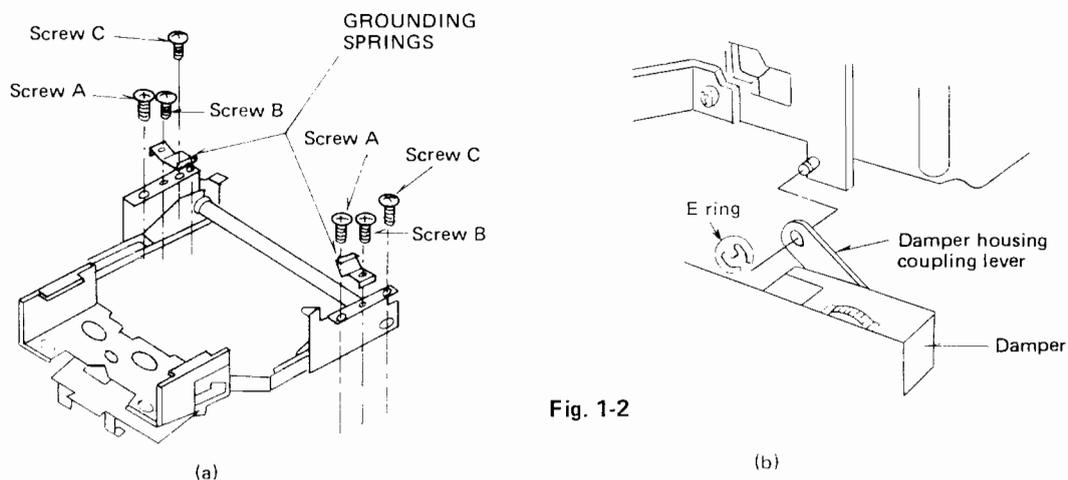

Fig. 1-2
3. Remove the E ring of the coupling lever from the oil damper housing as shown in Fig. 1-2 (b).
2. Install screws "A" and "C" as shown in Fig. 1-2(a) and the damper lever as shown in Fig. 1-2(b).
5. Install the ground springs and secure in place with screws "B". (See Fig. 1-2 (a))